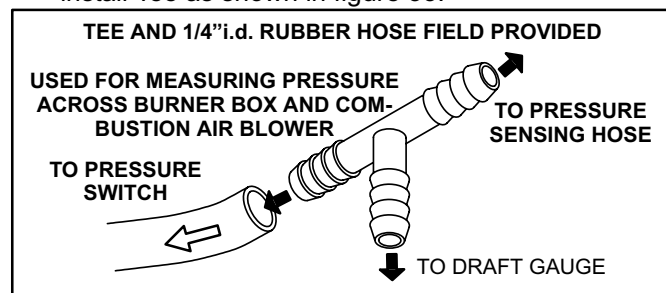

FIGURE 33
- 2 - Disconnect hose from left side of pressure switch and install Tee as shown in figure 33.
- 7 - Disconnect hose from right side of pressure switch and install Tee as shown in figure 33.